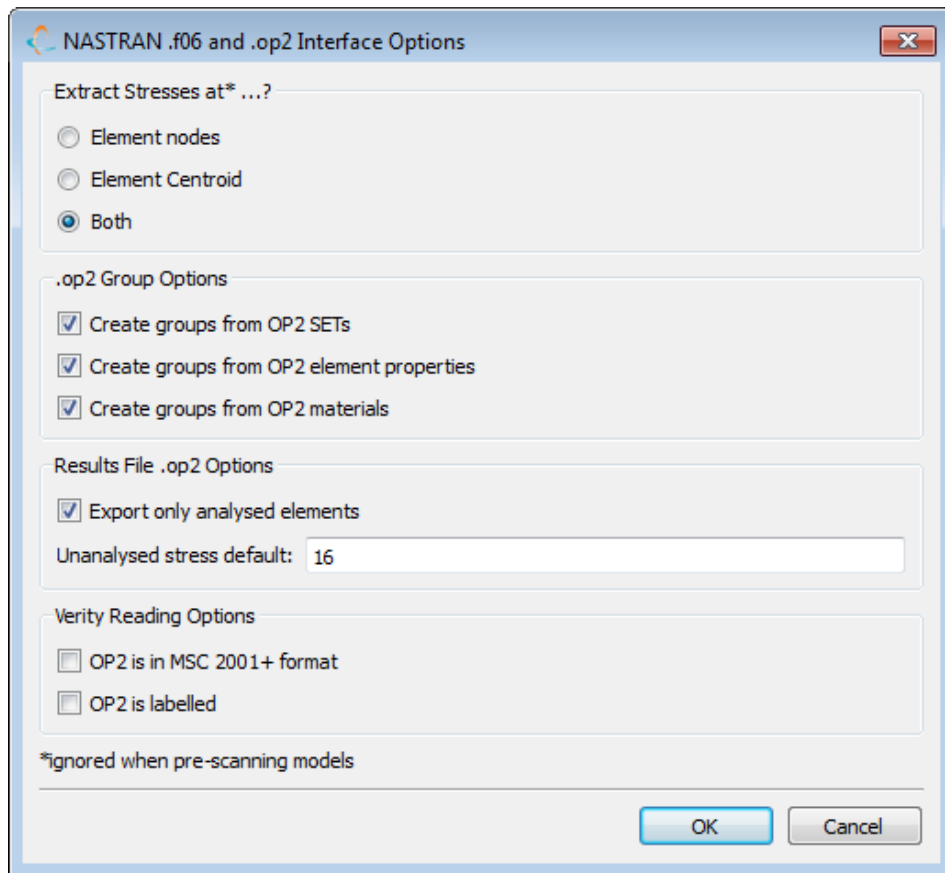

Figure 207.6-1
*fe-safe* will read analysis results from CSA/NASTRAN v98 and MSC.NASTRAN for Windows v4.5. See Figure 207.6-1 above.